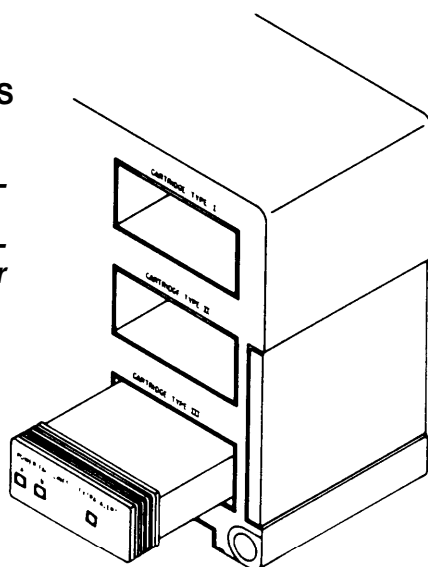

Figure 3
3. Slide the cartridge into the control unit cartridge slot marked Cartridge Type III as shown in Figure 3.